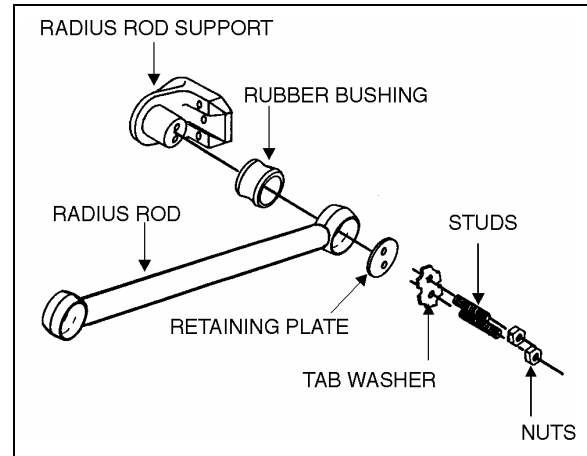

FIGURE 9: TYPICAL RADIUS ROD SETUP 16010
1. Flatten the tab washer which secures the two retaining nuts (or bolts), then unscrew the nuts (or bolts) at each extremity of the radius rod (Fig. 9).